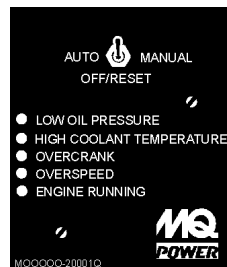

Figure 10. MPEC Module
11. **MPEC – Microprocessor Engine Control Module** – (MPEC) has a vertical row of status LED's (Figure 10), that when lit, indicate that an engine malfunction (fault), has been detected. When a fault has been detected the MPEC will evaluate the fault and all major faults will shutdown the generator.